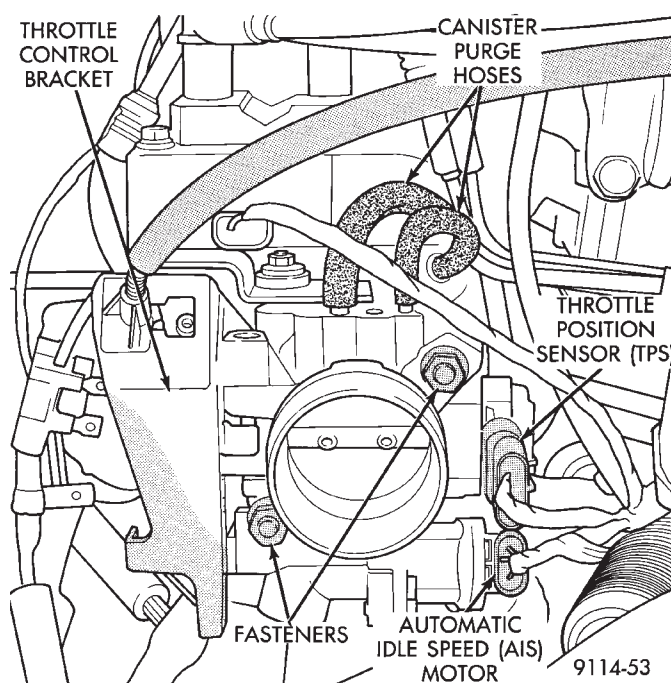

Fig. 6 Automatic Idle Speed (AIS) Motor and Throttle Position Sensor (TPS) Wiring Connectors
- (8) Disconnect automatic idle speed (AIS) motor and throttle position sensor (TPS) wiring connectors (Fig. 6).
(5) Connect Automatic Idle Speed (AIS) and Throttle Position Sensor (TPS) wiring connectors (Fig. 6).